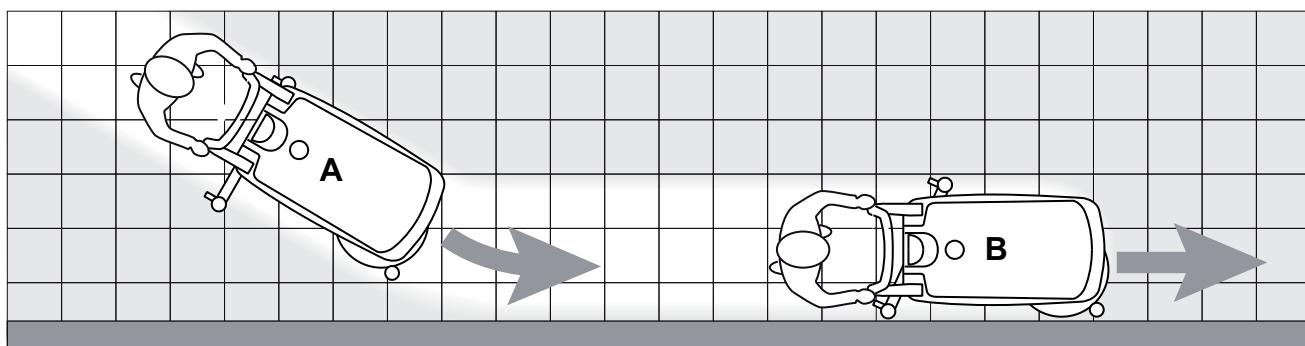

Figure 1
*For correct scrubbing/drying of floors at the sides of the walls, Nilfisk Alto suggests to go near the walls with the right side of the machine as shown in figure 1.*